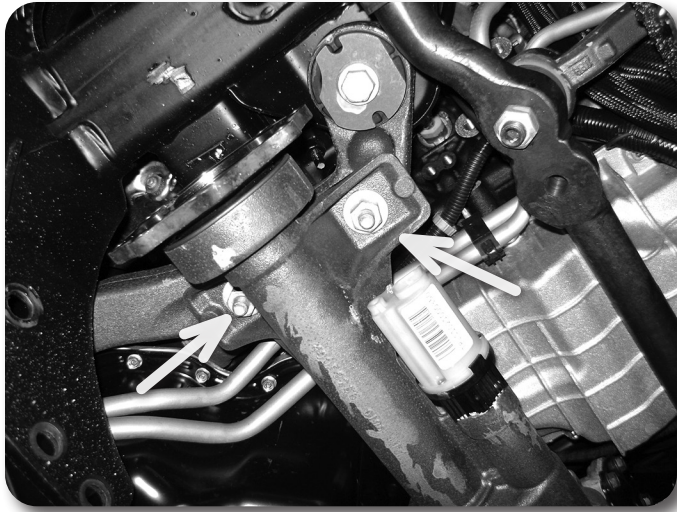
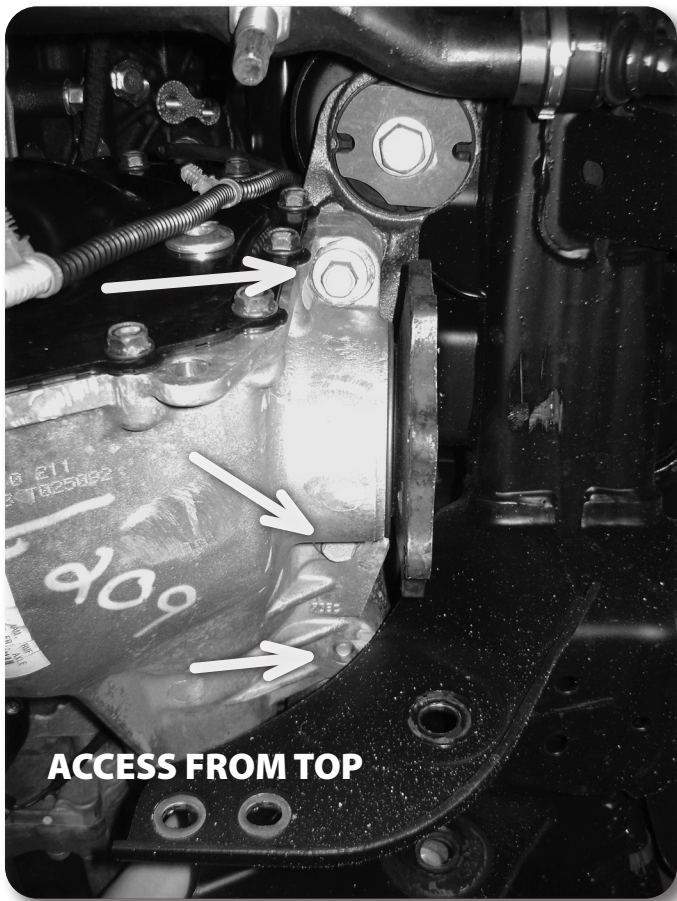

Figure 20A
Figure 20B
28. Loosen but do not remove all of the front differential mounting bolts/nuts. There are two nuts on the passenger's side **Figure 20A** and three bolts on the driver's side (**Figure 20B** - two mount from the bottom up and one from the top down). Remove the rear-most bolt mounting from the top.